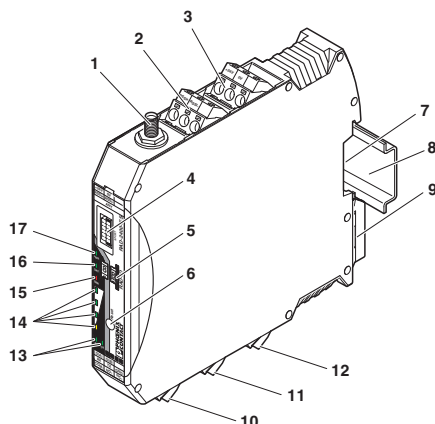

Figure 4-1 Wireless module structure
- Connect the single wires of the data cable to the COMBICON plug-in screw terminal block (Figure 4-1, item 10).